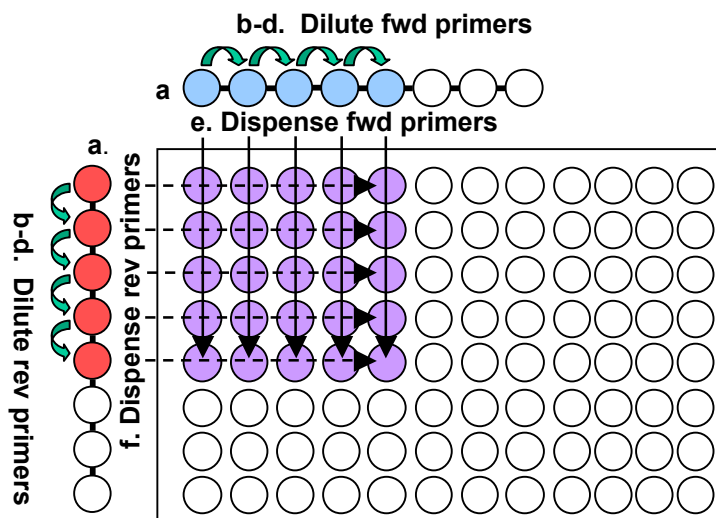

Fig 1: Follow step 1a – 1f using diagram above
1. Prepare and dispense diluted primers (Fig 1).